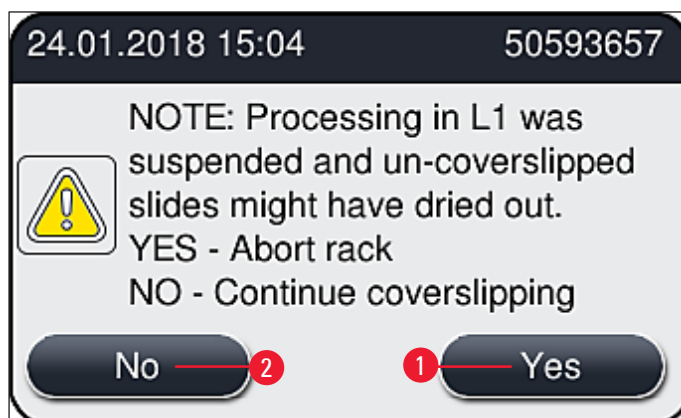

Fig. 111
9. The instrument software performs a fill level scan. The user receives an information message when the check is finished (→ Fig. 111).